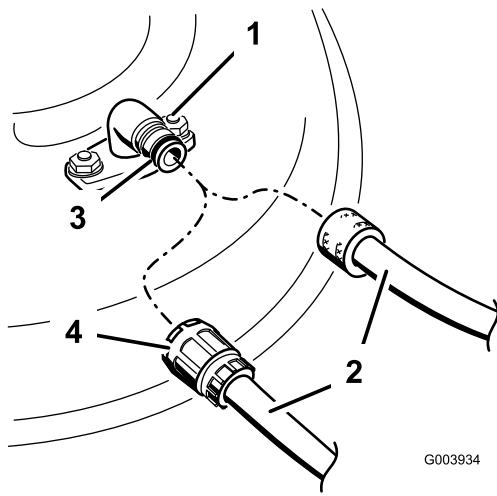

Figure 60
3. Attach the hose coupling to the end of the mower washout fitting, and turn the water on high (Figure 60).